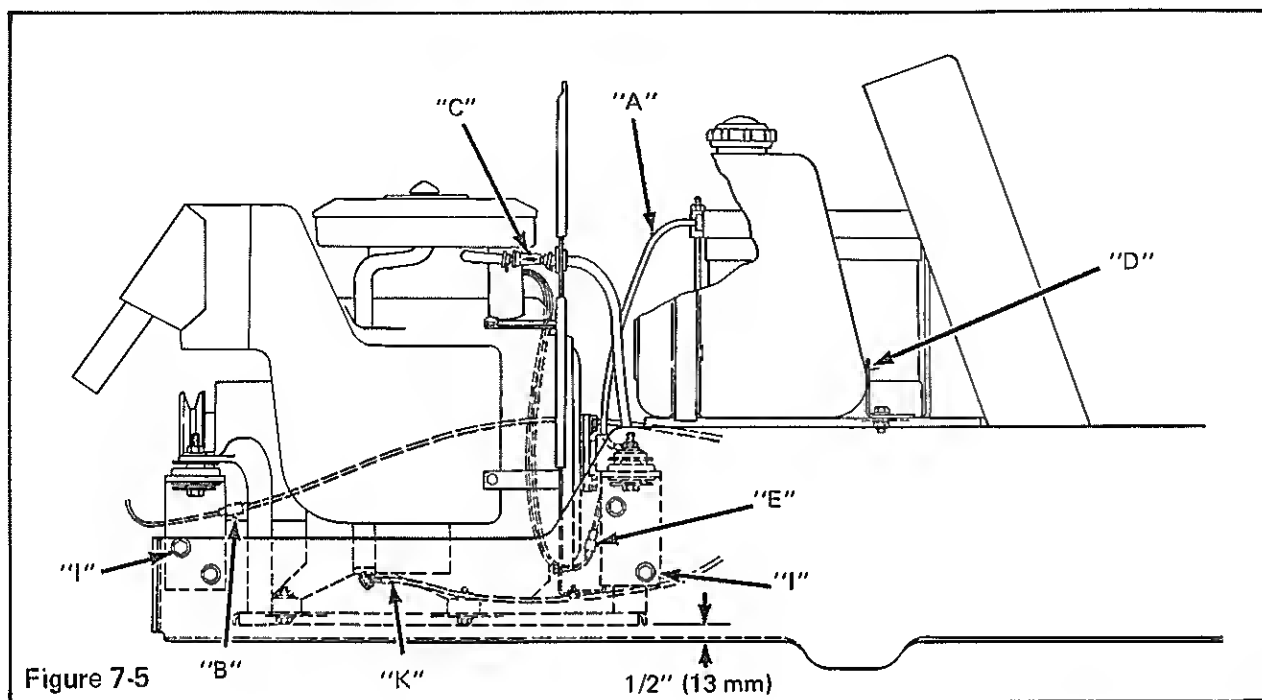

Figure 7-5
1. Disconnect negative battery cable (A) from battery.
4. Close fuel petcock and disconnect fuel line at fuel filter (C). Remove bracket (D), Figure 7-5 and fuel tank.
11. Lift engine straight up till starter wire (K), Figure 7-5 can be removed.
12. Slide hub (H) of drive shaft off when removing engine.